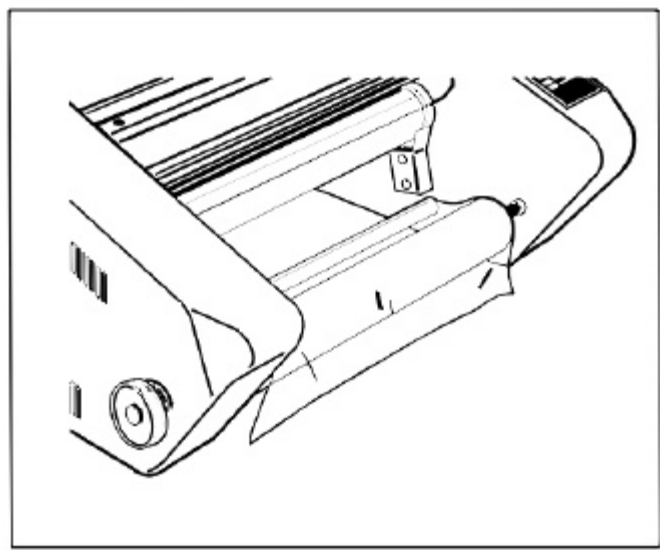

Fig. 13
11. Unroll 2 ft. (61 cm) of film. Push the leading edge under and around bottom film guide. Slide film guide back into place and drape film over the front support for the feed table, (Figure 13).